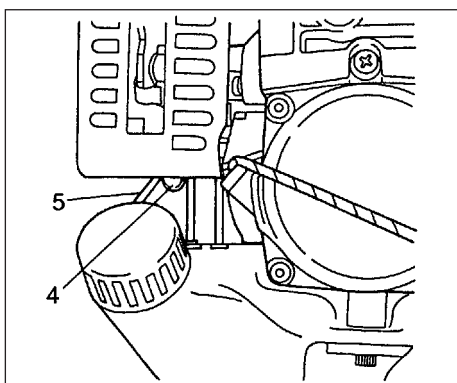
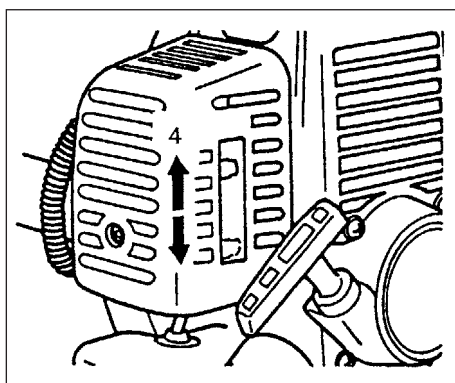

Fig. 2-2C
Fig. 2-3
\* Push priming bulb (4) several times so that fuel flows through return pipe (5) (if so equipped) (Fig. 2-2C)
2. With the safety trigger (2) pressed (if so equipped), pull throttle trigger and push throttle lock (3), then slowly release the throttle trigger first, then the safety trigger. This will lock the throttle in starting position.
3. Set choke lever to CLOSED position (4). (Fig. 2-3)